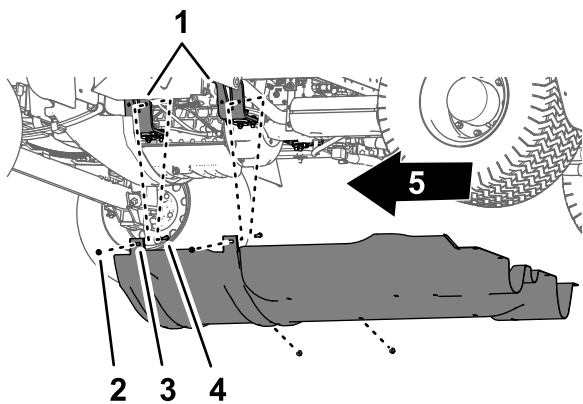

Figure 65
2. Remove the 4 flange locknuts (5/16 inch) from the bolts and carriage bolt that secure the mounting tabs of the undercarriage shroud to the engine-mount brackets of the machine (Figure 65).
4. Remove the undercarriage shroud from the machine (Figure 64 and Figure 65).
1. Align the undercarriage shroud to the bottom chassis of the machine; refer to Figure 65 in Removing the Undercarriage Shroud (page 50).
2. Move the mounting tabs of the undercarriage shroud over the bolts and carriage bolt at the engine-mount brackets of the machine; refer to Figure 65 in Removing the Undercarriage Shroud (page 50).
3. Assemble the undercarriage shroud to the engine-mount brackets and bolts (Figure 65) with the 4 flange locknuts (5/16 inch) that you removed in step 2 of Removing the Undercarriage Shroud (page 50).